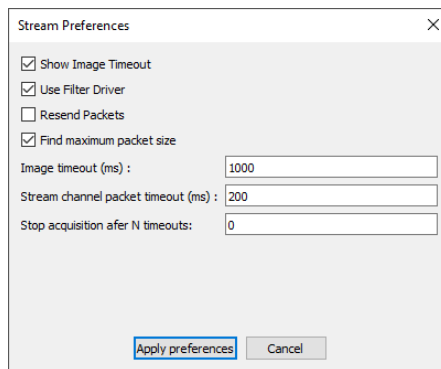

Figure 2.5: PFViewer Stream Preferences
The filter driver must be activated within the PFViewer tool additionally. Open the stream preferences window (Preferences -> Stream) and active to box User Filter Driver (see Fig. 2.5). This option is only available when a connection to a camera has been established.
1. Activate the option to find the maximum packet size that can be used with the current NIC and camera combination. Go to Preferences -> Stream and enable Find maximum packet size (see Fig. 2.5).